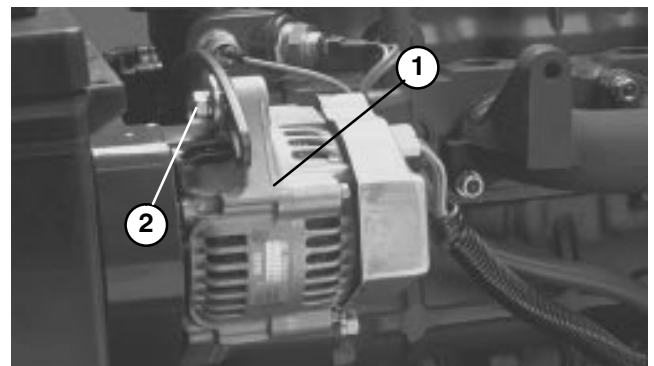

Figure 34
1. Condition and Tension – Check condition and tension of belt (Fig. 34) after every 100 operating hours.